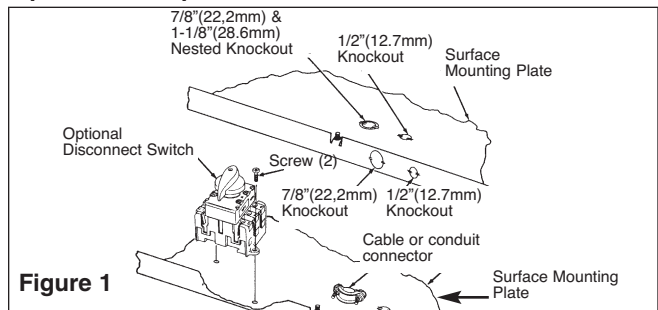

Figure 1
- Remove the Surface Mounting Plate (Figure 1) from the carton containing the Surface Mounting Enclosure, Type SEA.
- Install the optional disconnect switch (if required) as shown in Figure 1.